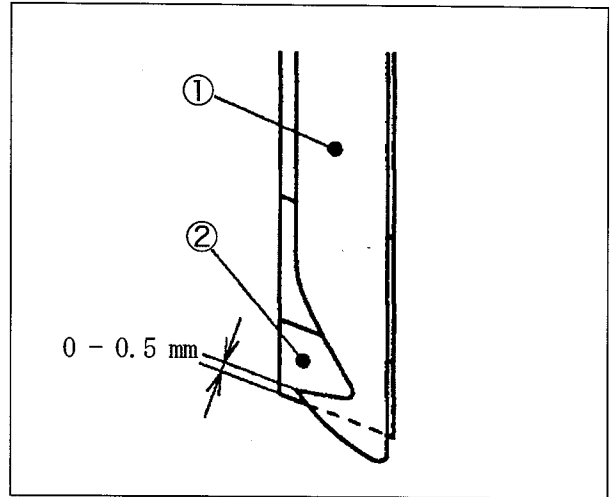

Fig. 41
The engagement between the movable trimming knife ① and the fixed trimming knife ② is set to 0 - 0.5 mm in Fig. 41 at shipment.
- (1) Loosen the screw ③ of the solenoid lever ④.
- (2) Engage the fixed trimming knife ② with the movable trimming knife ① to 0 - 0.5 mm when the knife ① is inmost.
- (3) Tighten the screw ③ securely.